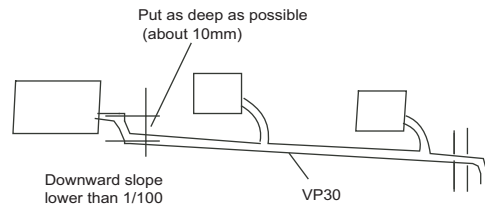

Fig. 15 — Using a Main Drain to Serve Multiple Indoor Units with Internal Condensate Pumps
- Condensate piping should slope downward in the direction of condensate flow, with a minimum gradient of 1 in. per 100 inches (see Fig. 15).
NOTE: CN18 can be disconnected to stop the pump. The condensate switch is switch CN5 which can be used for gravity drain protection (see Fig. 15).